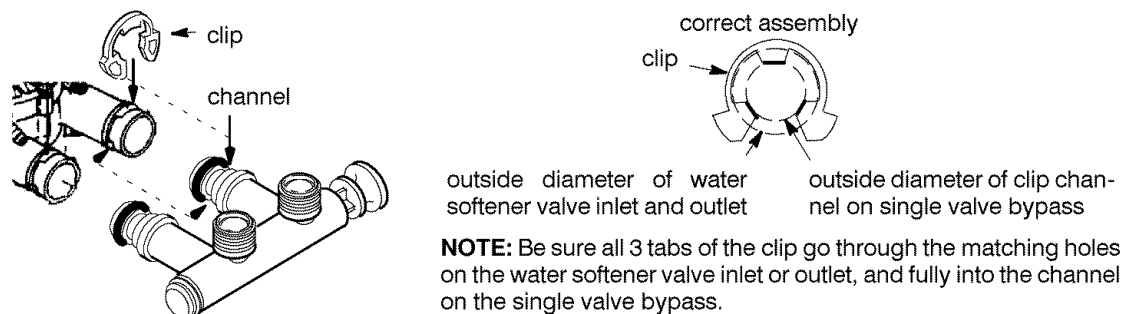

Figure 8
5. Push the bypass valve into the softener valve as far as it will go. Snap the two large holding clips into place, from the top down as shown in Figure 8.